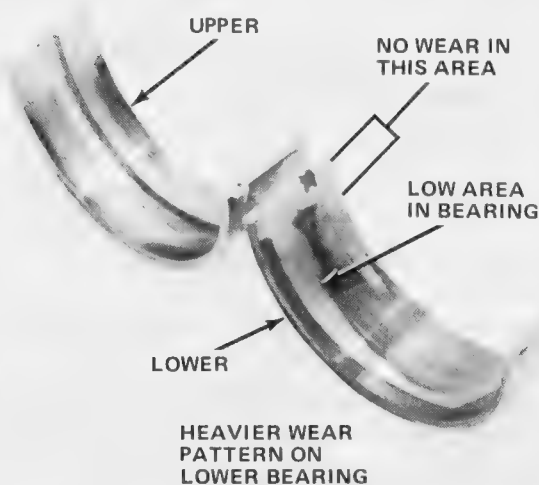

Fig. 1B-118 Normal Main Bearing Wear Pattern
(5) Remove bearing cap and determine amount of clearance by measuring width of compressed Plastigage with scale on Plastigage envelope (fig. 1B-119). Correct clearance is 0.001 to 0.003 inch. Plastigage should maintain same size across entire width of insert. If size varies, it may indicate tapered journal or dirt trapped behind insert.
(6) If correct clearance is indicated, bearing fitting is not necessary. Remove Plastigage from crankshaft and bearing and proceed to Installation.